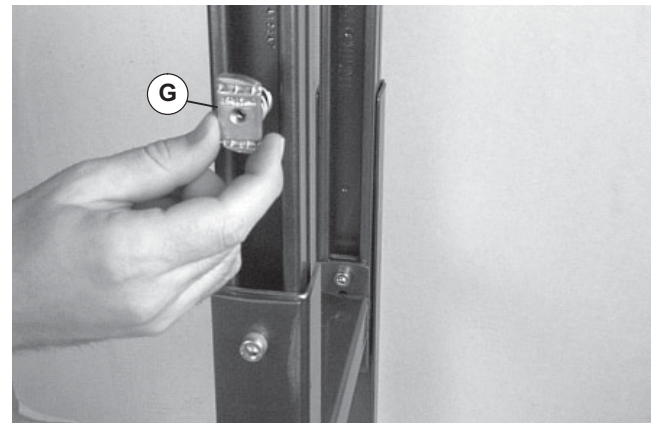

Figure 6
2. Install spring nut (Figure 6, item G) into steel stand channel.